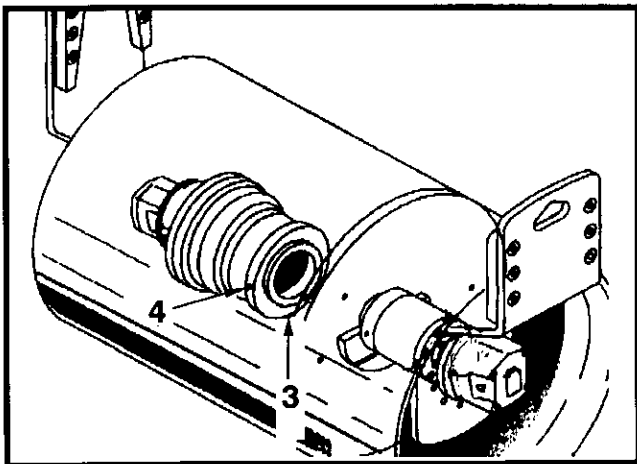

Figure 5-28 Drum Drive Gearbox Oil Fill, Level, Drain ports
5. Remove both plugs (3 and 4, Figure 5-28) and allow oil to completely drain from the housing into a container. Dispose of oil in accordance with local regulations.
7. Using appropriate filling device, slowly add gear oil through the upper port (4) until oil overflows at level port (3). Refer to Section 8 - Fuel And Lubricant Instructions for oil specifications and quantities.